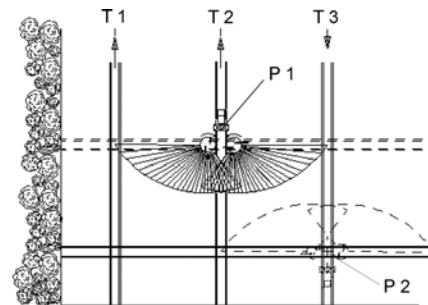

Fig. 30
**Open the shutter** when "driving up" approx. **on point P1** (Fig. 30), when the spreader is in line with the 2nd tramline on the headlands (broken line).
**Close the shutter** when "driving down" **on point P2** (Fig. 30), when the spreader is in line with the 1st tramline on the headlands.